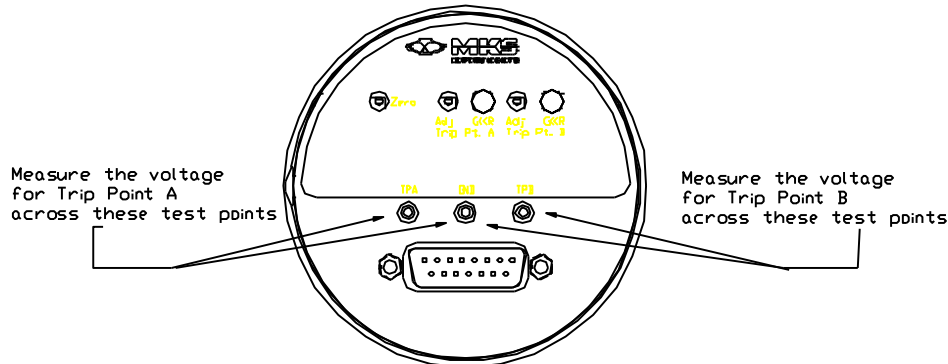

Figure 8: How To Measure the Trip Point Voltage
All pressure transducers require initial and periodic zero adjustments. Prior to initial operation and during periodic maintenance you must check the transducer zero to verify the proper output. The zero can be set (or reset) by adjusting the ZERO potentiometer, located on the transducer's endcap (refer to Figure 8, page 26). The transducer should be powered and allowed to warm up before using its pressure measurements.
- Adjust the ZERO pot with a small flathead screwdriver until the readout displays zero (0000). The ZERO pot is located on the unit's endcap (refer to Figure 8, page 26).